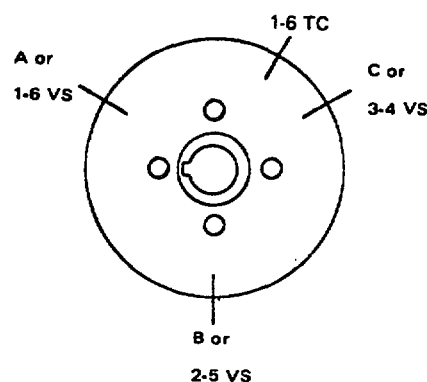

Fig. 2-50, (NI14230) Accessory drive pulley markings
1. Bar engine until A or "1-6 VS" is aligned with pointer. Fig. 2-50. Both valve rocker levers for No. 5 cylinder should be free (valves closed). Injector plunger for No. 3 cylinder must be at top of travel. If not, check No. 2 cylinder for valves being free and No. 4 injector plunger should be at top of travel. See Table 2-11 for Valve Injector Set Position.